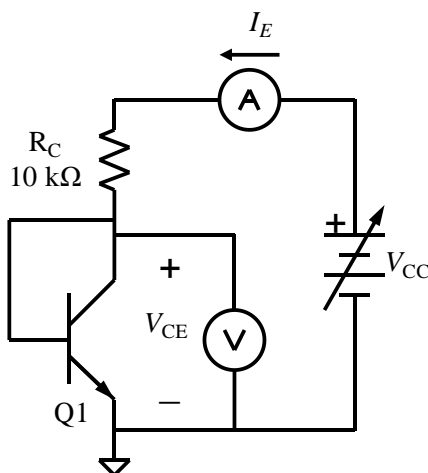

Fig. 4. Diode-connected transistor circuit.
4. Modify the circuit as shown in Fig. 4 to measure the characteristics of a diode-connected transistor as described below. Your measurements will drift with temperature changes in the transistor, so record the data as soon as your voltage and current adjustments are complete.